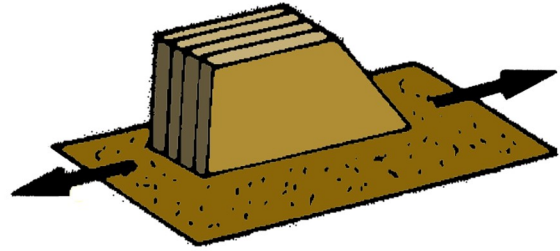

Figure 7
- **Step 12** Sand the excess glue from the fins. Do not over-sand. Gently round over the outer edges of all fins, *except* for the root edges. Square up the root edges so that they will be flat to the body tube when attached. See Fig. 7.